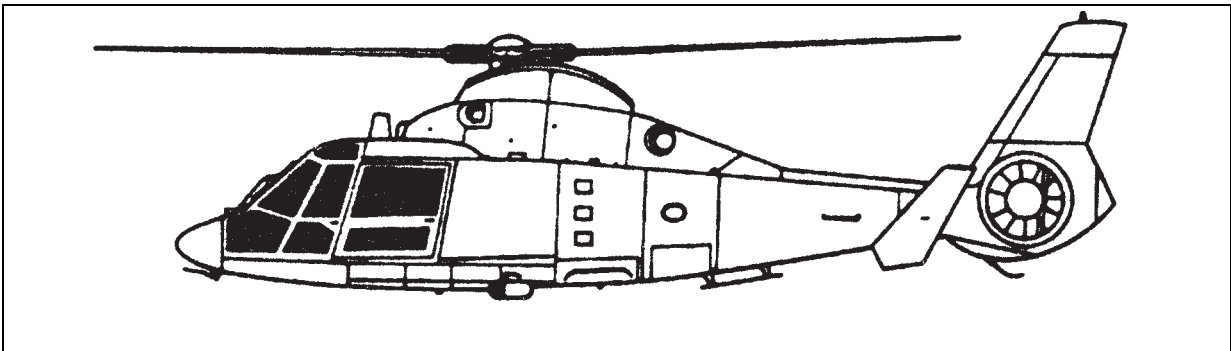

Figure 2-23. H-65A Dolphin
- **HH-65A.** The HH-65A Dolphin (figure 2-23) is a twin engine, single main rotor helicopter manufactured by Aerospatiale Helicopter Corporation. The primary mission of the HH-65A is search and rescue, but it also has a limited utility capability.